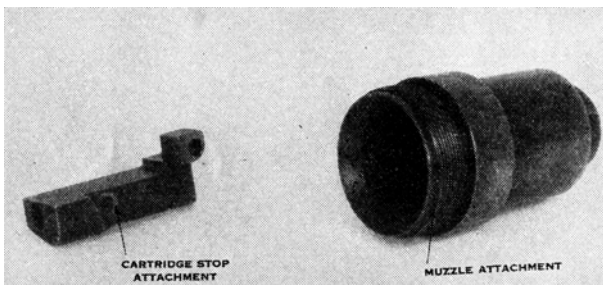

FIGURE 18.—Blank firing attachments
(2) In case of a miss in loading the belt, stop and open up machine and remove belt. Turn crank to the right until straight down, as in starting, and replace belt in machine with the *next to the last* cartridge in top groove of lower feed wheel. Close machine and proceed as before.
(3) After use, the machine should be cleaned, oiled, adjusted, and replaced in its wooden box.
■50. BLANK AMMUNITION ATTACHMENT (fig.18).—*a. General.*—The blank ammunition attachments for use with the machine gun have been developed in order to simulate fire. The attachments are designed to fire M1909 blank ammunition.